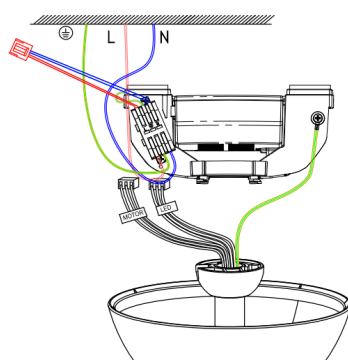

Fig 6
(Refer to Fig 6.).
- Screw "EARTH" cable from motor to cavity ⊕ on the mounting bracket. Please refer to Fig 6